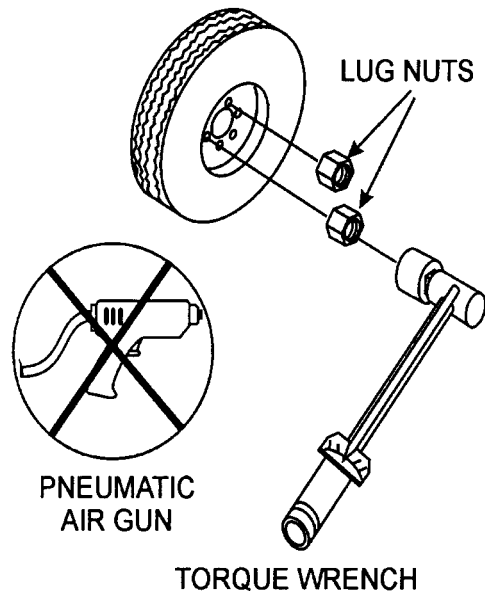

Figure 5. Lug Nut Tightening Sequence
2. Torque all lug nuts in sequence. See Figure 5. DO NOT torque the wheel lug nuts all the way down. Tighten each lug nut in 3 separate passes as defined by Table 4.